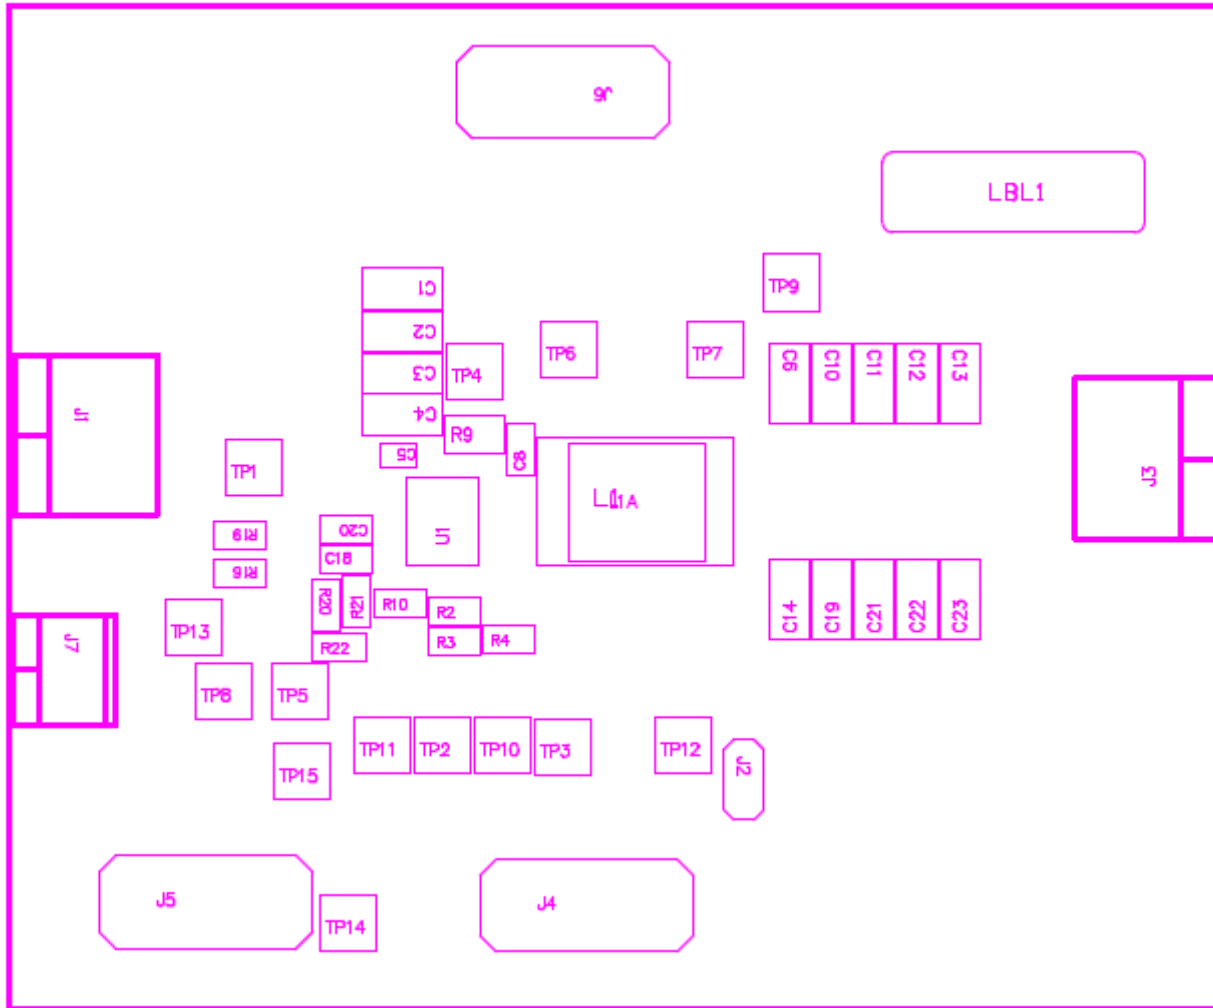

Figure 5-2. TPS53915EVM-587 Top Layer for Test Setup
Voltage Source The input voltage source V_{IN} must be a 0 to 14-V variable-DC source capable of supplying 10 ADC. Connect V_{IN} to J1 as shown in Figure 5-2.
1. Prior to connecting the DC input-source, V_{IN} , TI recommends to limit the source current from V_{IN} to 10-A maximum. Ensure that V_{IN} is initially set to 0 V and connected as shown in Figure 5-2.
1. Set up the EVM as described in Section 5 and Figure 5-2.